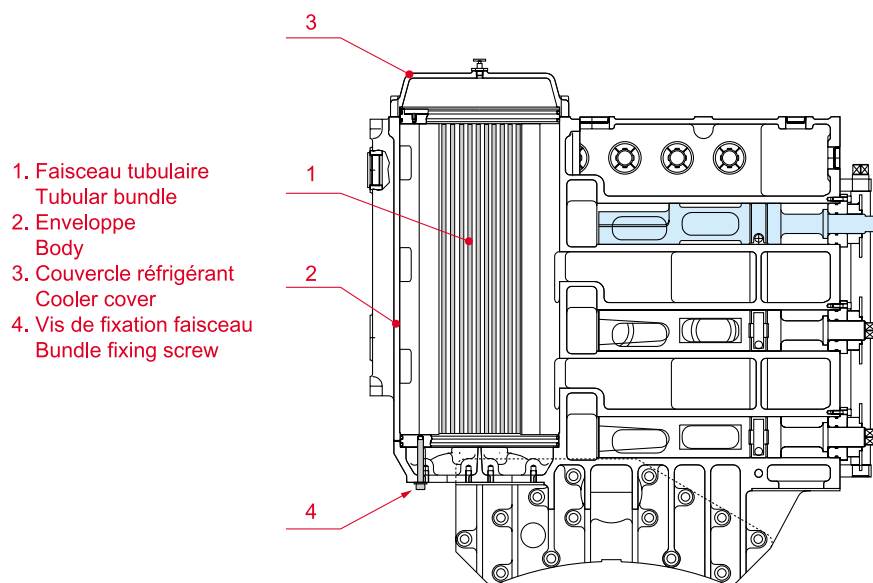

Fig. 18-6
18.5.1 Description (see Fig. 18-6)